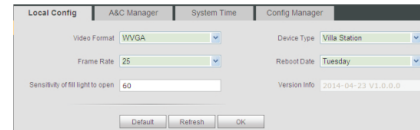

Figure 3-2
- Step 2** In WEB interface, select System Config>Local Config, set video format as WVGA as in Figure 3-2.